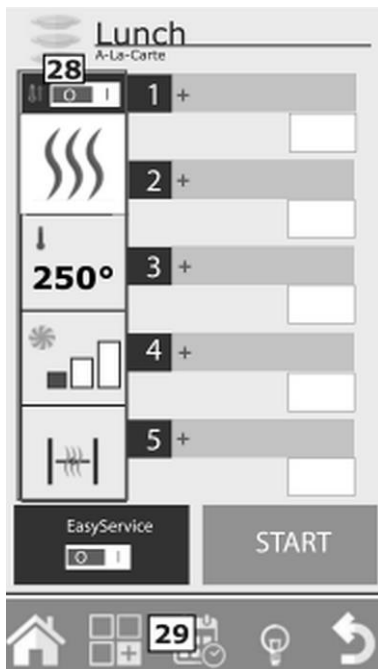

Fig. 35
1. To change Rack Control program after opening it, press 28 key (Fig. 35) in the left column of the displayed settings.
2. In such case press the Functions key (29, Fig. 35) and proceed with settings, as explained in section 'Copying, Moving, Renaming, and Removing Thermal Processing Programs'.
3. Then press the Functions key (29, Fig. 35) and continue saving the program as described and explained in section 'Saving Thermal Processing Program'.